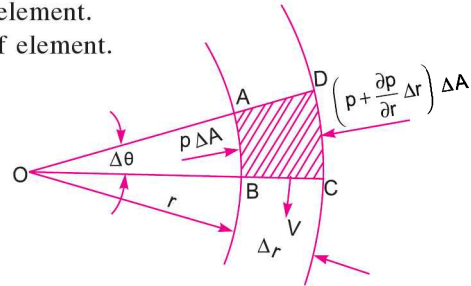

Fig. 5.13
**5.10.3 Equation of Motion for Vortex Flow.** Consider a fluid element  $ABCD$  (shown shaded) in Fig. 5.13 rotating at a uniform velocity in a horizontal plane about an axis perpendicular to the plane of paper and passing through  $O$ .